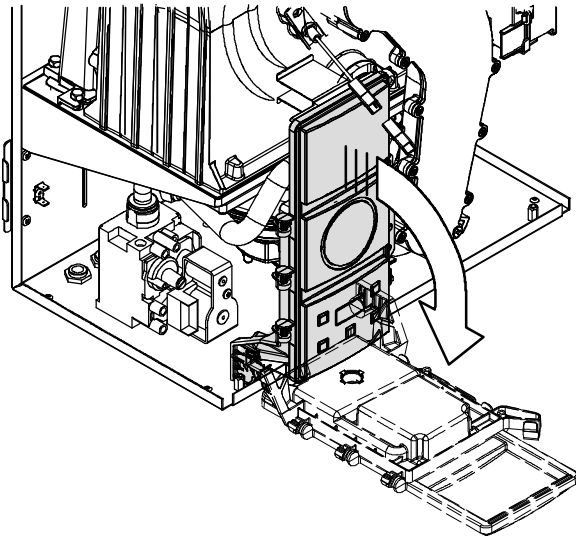

Fig. 2.6
- To access to the parts located inside the control panel turn it as shown in Fig. 2.6.